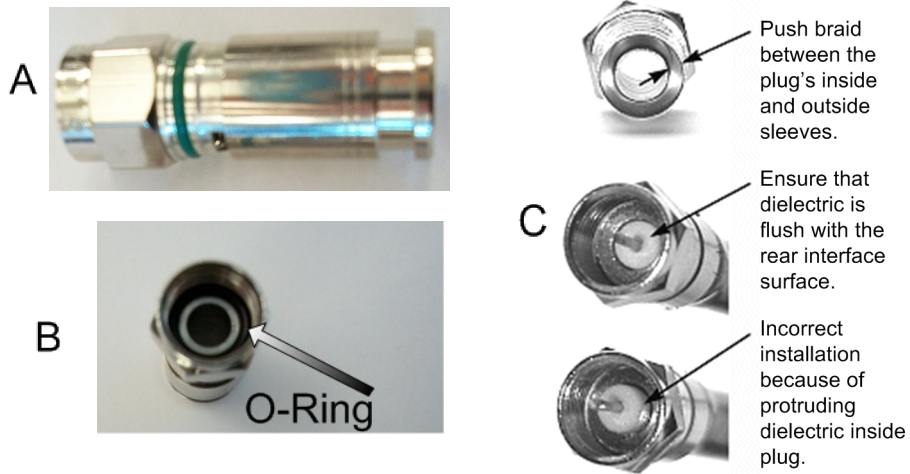

Figure C-4. Attaching the Compression fitting F-type Connector
8. Install the RG-6 connector compression sleeve, or mandrel, (top left (A) in Figure C-4) over foil and underneath the braid. A good, weatherproof outdoor connector mandrel should have a visible O-Ring (bottom right (B) Figure C-4).
**NOTE:** The white colored inner dielectric insulation should be flush with the inner rear surface of the connector. Refer to the picture on the right (C) in Figure C-4 for an RG-6/RG-11 termination.
**NOTE:** Since the RG-11 connector has a built-in center pin, ensure that the coax center pin makes contact to the internal seizing pin of the connector. Refer to Figure C-4.